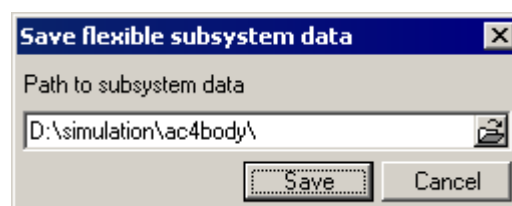

Figure 11.11.
- The **Save as** button is aimed for saving the orthonormalized set of modes. Input the full path to the subsystem in the save dialog (Fig. 11.11).